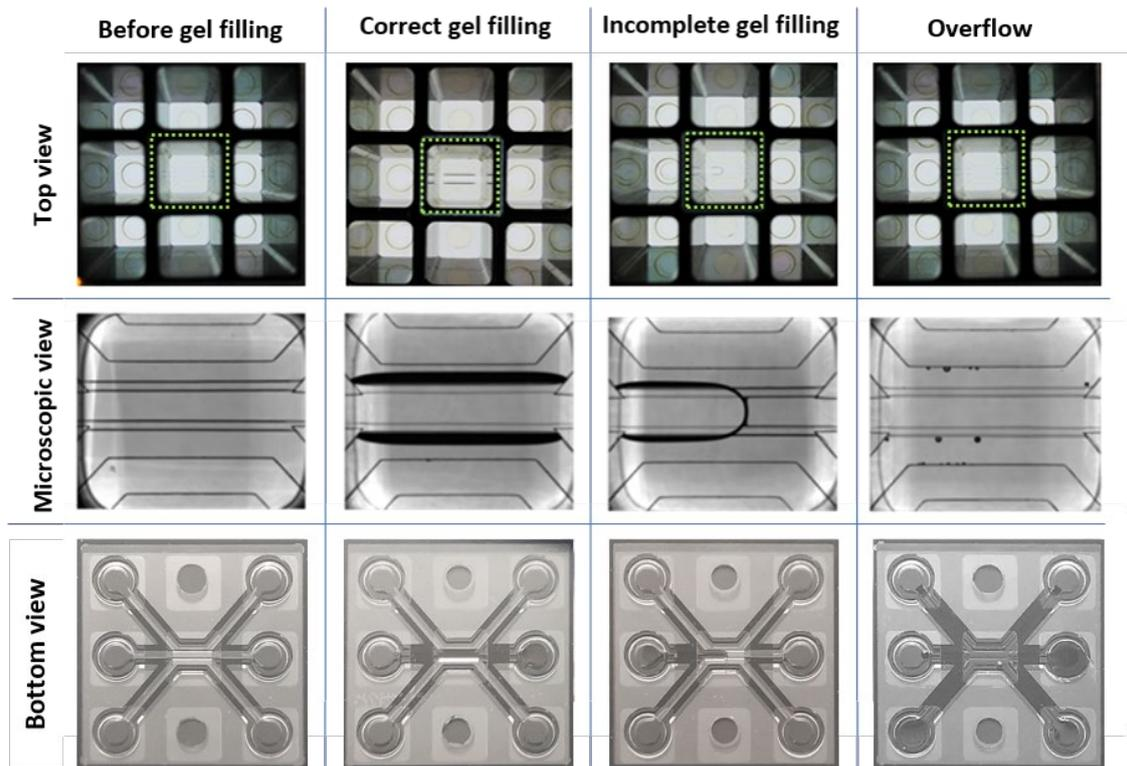

Figure 5: Overview of correct gel filling, incomplete gel filling, and overflow in the OrganoPlate® 3-lane.
- e. For examples of correct gel filling in the OrganoPlate® 3-lane, see figure 5.